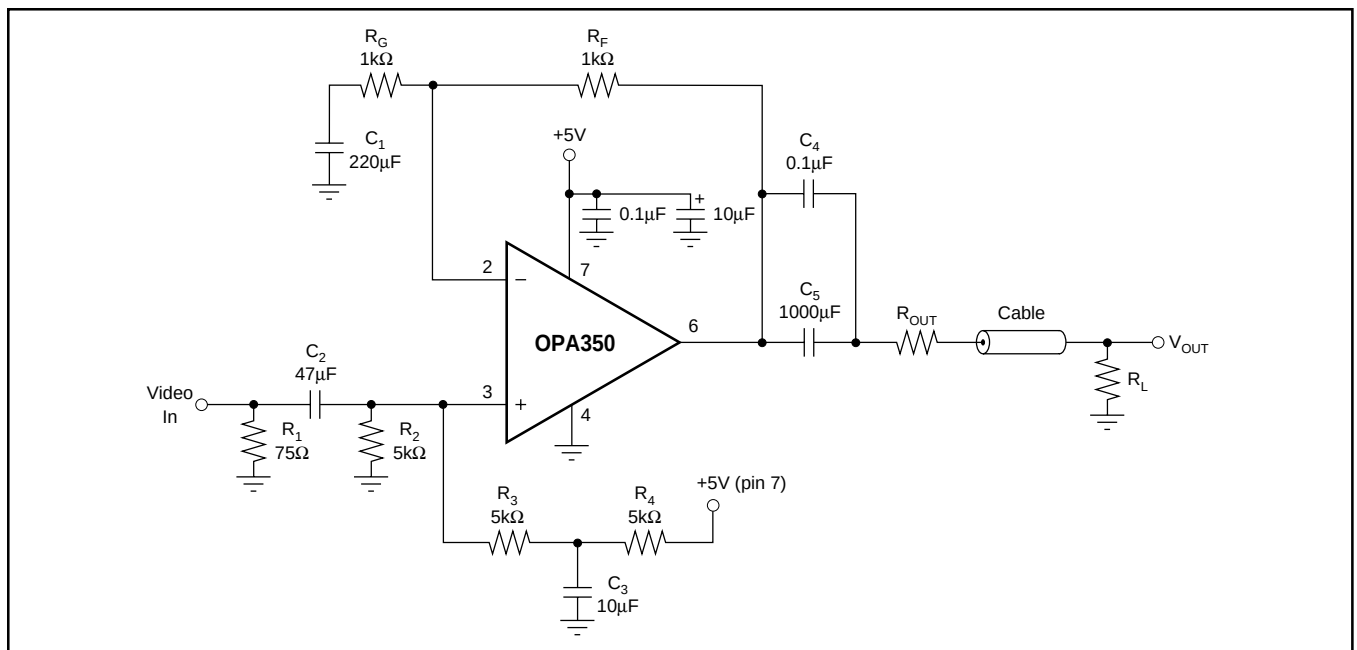

FIGURE 6. Single-Supply Video Line Driver.
NOTES: (1) $V_S = +5V$. (2) $V_{OUT} = 0.25V$ to $2.75V$. (3) NTSC signal generator used. See Figure 6 for test circuit. (4) Output voltage swings are measured between the output and power supply rails. (5) See typical characteristic, "Output Voltage Swing vs Output Current."
Figure 6 shows a circuit for a single supply, $G = 2$ composite video line driver. The synchronized outputs of a composite video line driver extend below ground. As shown, the input to the op amp should be ac-coupled and shifted positively to provide adequate signal swing to account for these negative signals in a single-supply configuration.
The input is terminated with a 75Ω resistor and ac-coupled with a $47\mu\text{F}$ capacitor to a voltage divider that provides the dc bias point to the input. In Figure 6, this point is approximately $(V_-) + 1.7\text{V}$. Setting the optimal bias point requires some understanding of the nature of composite video signals. For best performance, one should be careful to avoid the distortion caused by the transition region of the OPA350's complementary input stage. Refer to the discussion of rail-to-rail input.